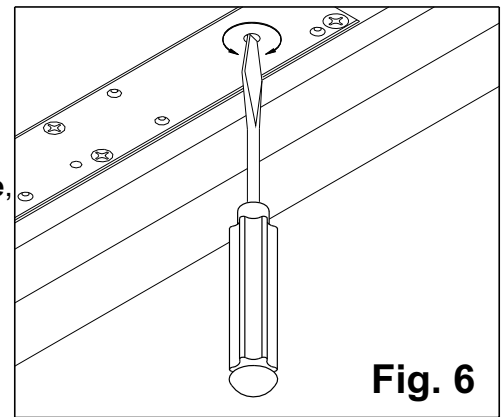

Fig. 6
8. CLOSING POWER ADJUSTMENT: Depending on width of door, the 2210 has been ordered as one of three sizes: 2213, 2214 or 2215. Determine closer size from either label on box or UL label on mounting plate. Adjustment can be made with a flat head screwdriver (see **Fig. 6**). Adjustment range for each size is as follows: